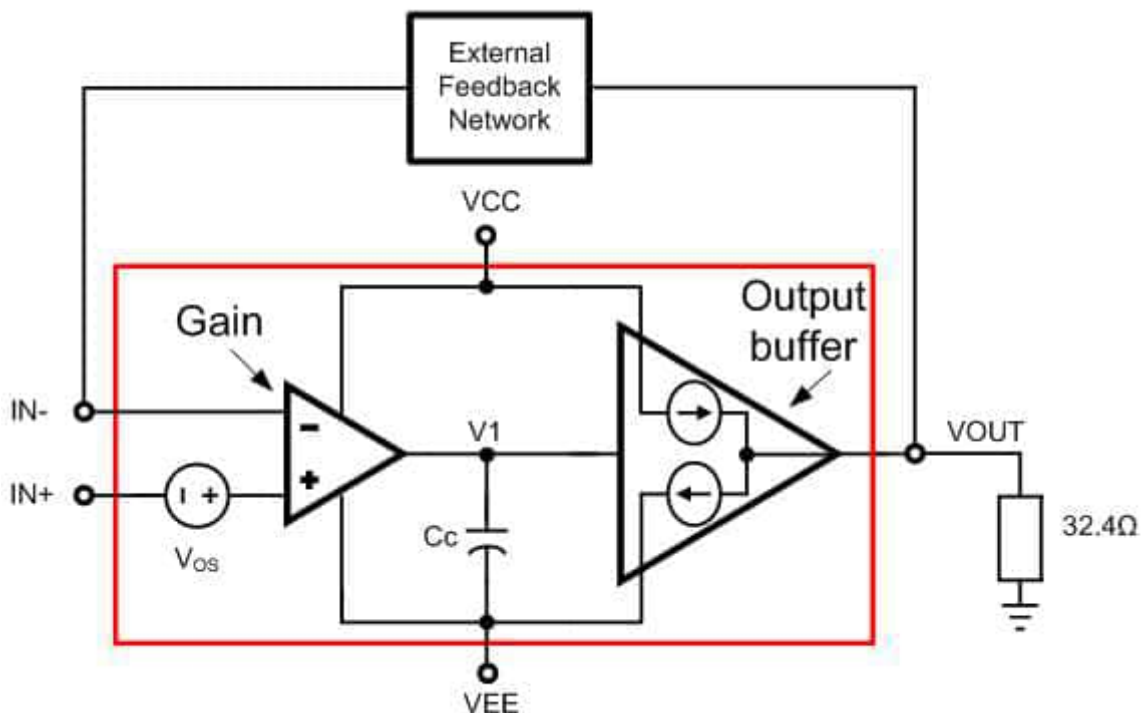

Figure 1: Op amp driving a headphone load
- Figure 1 is a simplified block diagram of an op amp driving a headphone load. It consists of two stages – a gain stage and an output buffer – as well as a compensation capacitor,  $C_c$ , and an offset voltage,  $V_{os}$ . The output buffer is a unity gain stage capable of sinking and sourcing current as shown.